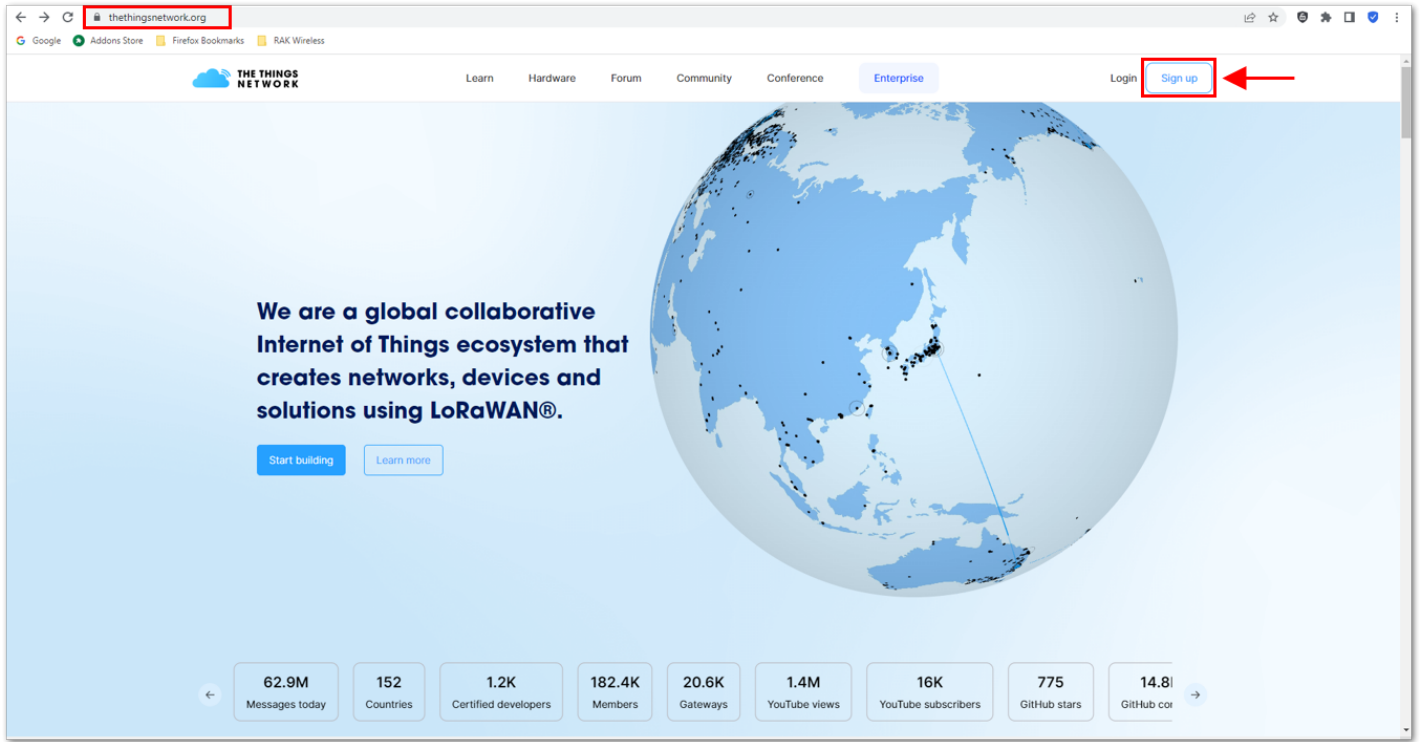
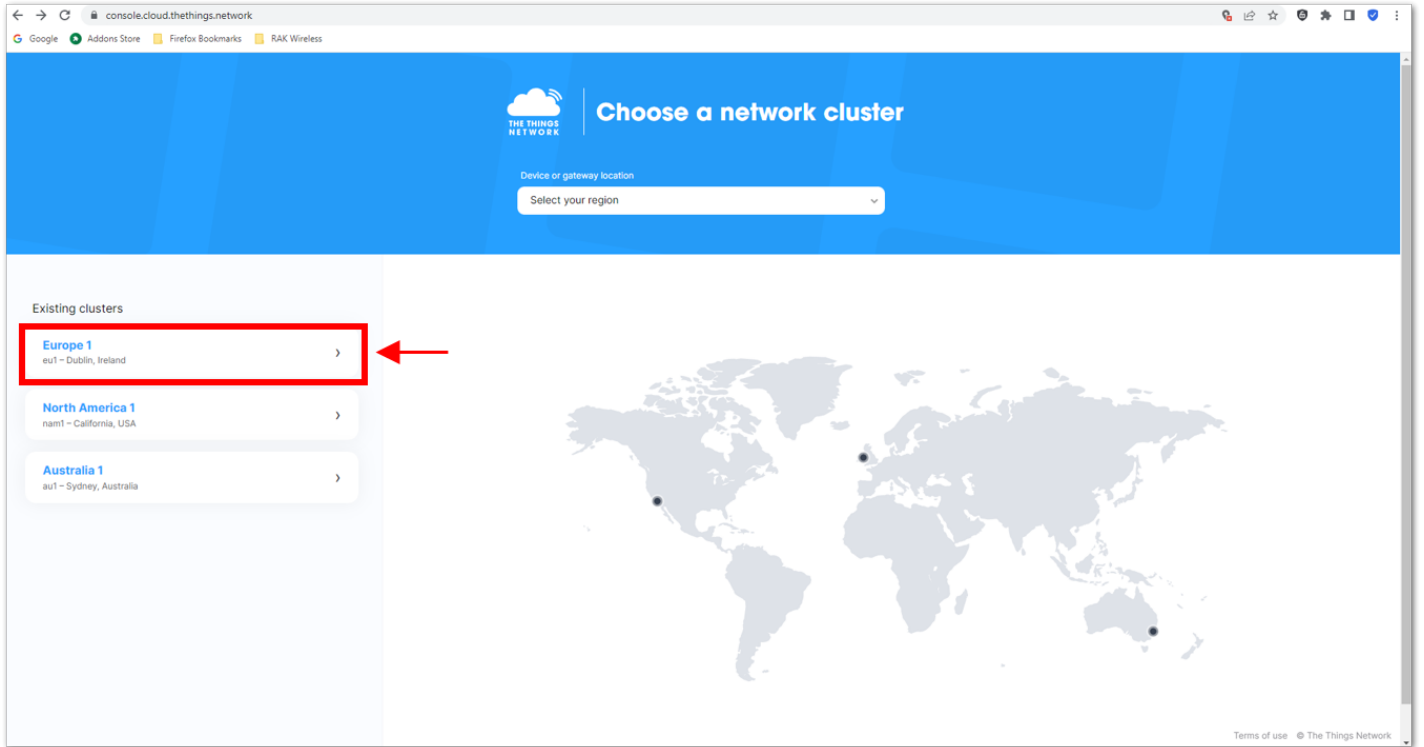

Figure 37: Signing up an account in TTN
Figure 39: Selecting Cluster in TTN
1. The first step is to go to The Things Network and sign up an account shown in **Figure 37**. Then select a cluster as shown in **Figure 39**.